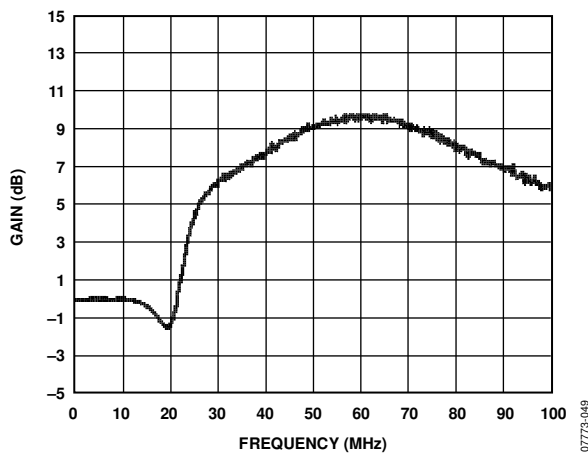
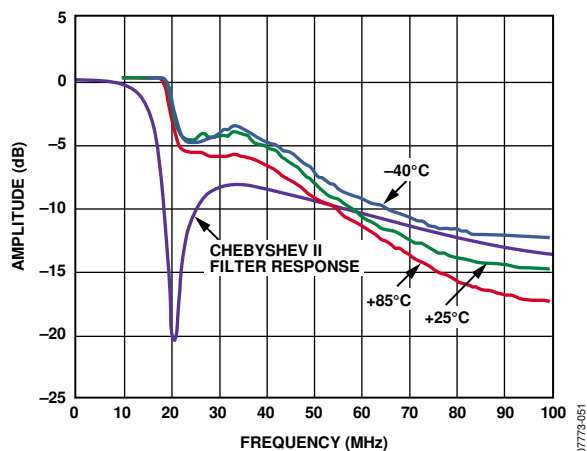
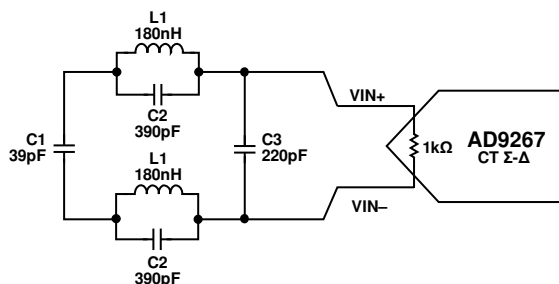

Figure 43. STF
Figure 44. Maximum Input Level for 3 dB Noise Degradation
Figure 45. Third-Order Low-Pass Chebyshev II Filter
An overrange condition can be triggered by large in-band signals that exceed the full-scale range of the  $\Sigma$ - $\Delta$  modulator, or it can be triggered by out-of-band signals gained by the transfer characteristics of the modulator. Figure 43 shows the signal transfer function of the  $\Sigma$ - $\Delta$  modulator. The modulator output possesses out-of-band gain above 10 MHz. As a result, the input signal may exceed full scale for input frequencies beyond 10 MHz and the ADC may be in an overrange state. The OR $\pm$ x pins serve as indicators for the overrange condition.
Figure 43 shows the normalized STF of the AD9267 CT  $\Sigma$ - $\Delta$  converter. The figure shows out-of-band peaking beyond the band edge of the ADC. Within the 10 MHz band of interest, the STF is maximally flat with less than 0.1 dB of gain. Maximum peaking occurs at 60 MHz with 10 dB of gain. To put this into perspective, for a fixed input power, a 5 MHz in-band-signal appears at  $-5$  dBFS, a 25 MHz tone appears at  $-2$  dBFS and 60 MHz tone at  $+5$  dBFS. Because the maximum input to the ADC is  $-2$  dBFS, large out-of-band signals can quickly saturate the system. This implies that under these conditions, the digital outputs of the ADC no longer accurately represents the input. Refer to the Overrange (OR) Condition section for details on overrange detection and recovery.
Figure 43 shows the gain profile of the AD9267 and this can be interpreted as the level in which the signal power should be scaled back to prevent an overload condition. This is the ultimate trip point and before this point is reached, the in-band noise (IBN) slowly degrades. As a result, it is recommended that the low-pass filter be designed to match the profile of Figure 44, which shows the maximum input signal for a 3 dB degradation of in-band noise. The input signal is attenuated to allow only 3 dB of noise degradation over frequency.
The noise performance is normalized to a  $-2$  dBFS in-band signal. The AD9267 STF and NTF are flat within the band of interest and should result in almost no change in input level and IBN. Beyond the bandwidth of the AD9267, out-of-band peaking adds gain to the system, therefore requiring the input power to be scaled back to prevent in-band noise degradation. The input power is scaled back to a point where only 3 dB of noise degradation is allowed, therefore resulting in Figure 44.
An example third-order low-pass Chebyshev II type filter is shown in Figure 45 and the corresponding magnitude vs. frequency response of the filter is shown in Figure 44.
In addition to matching the profile of Figure 44, group delay and channel matching are important filter design criteria. Low tolerance components are highly recommended for improved channel matching, which translates to minimal degradation in image rejection for quadrature systems.